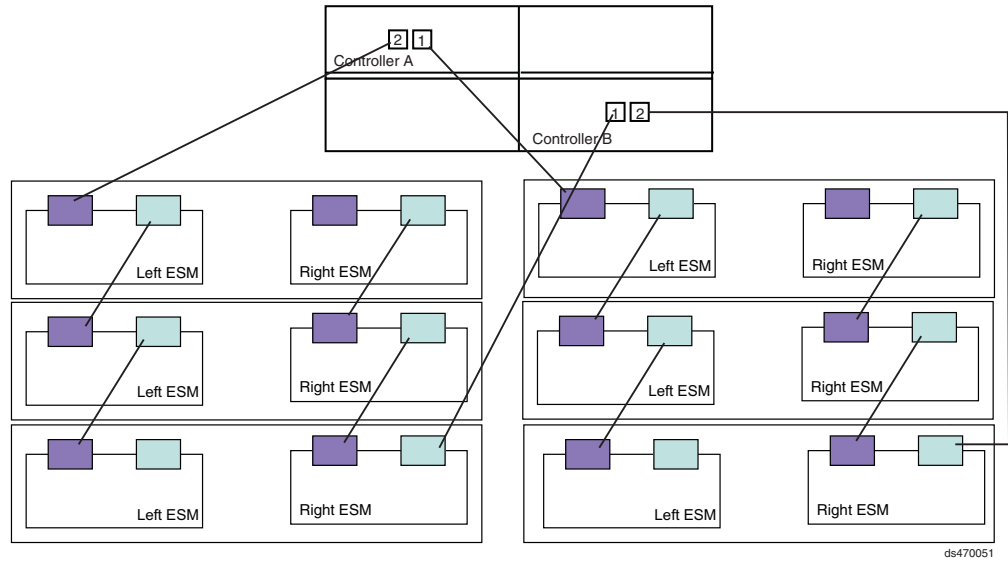

Figure 56. One DS4700 Express and up to six storage expansion enclosure — Recommended cabling
If you are cabling one DS4700 Express Storage Subsystem and up to six storage expansion enclosures, Figure 56 on page 75 shows the recommended cabling topology.
7. When connecting six storage expansion enclosures to a DS4700 Express, use all ports in both drive channels. See Figure 56 on page 75 for the recommended cabling topology.